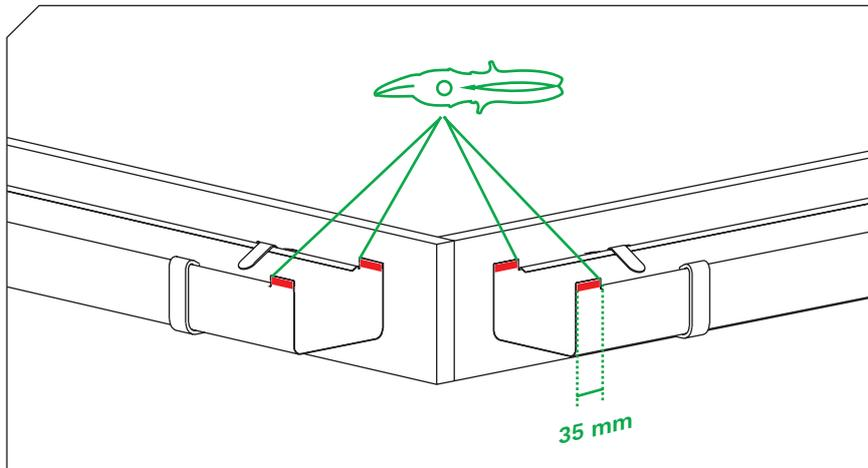

Figure 14
5.3 Make notches on the front and rear gutter drips at a distance of **35 mm** from the gutter ends. Straighten the drips. **(Figure 14)**